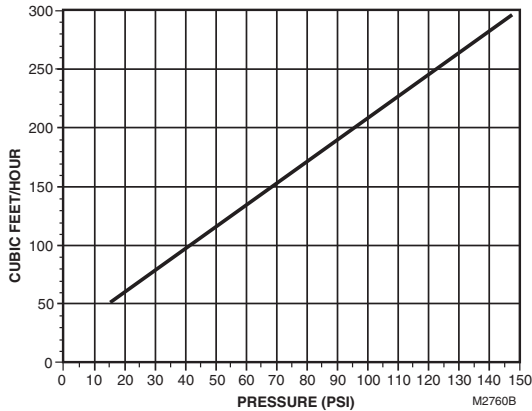

Fig. 2. EA79 flow capacities, with leakage guard cap.
**Capacities:** Refer to Fig. 2